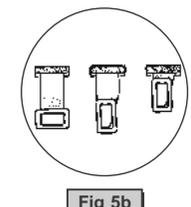

Fig 5b
- Remove harness sleeves by gently easing them through their slots (Fig 5b).